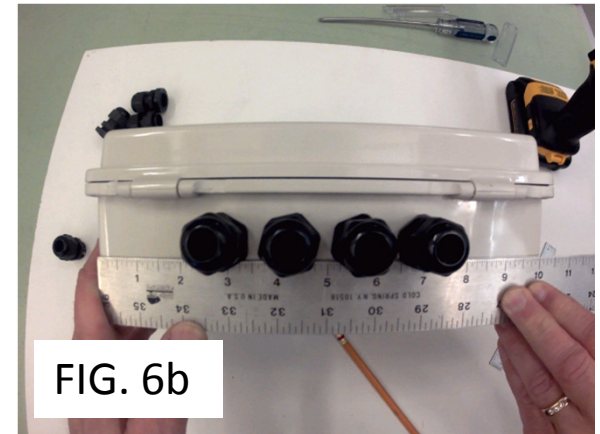

FIG. 6b
- Determine 7 cord grip locations on waterproof box (e.g., 3 PG13.5 grips on one long side, 3 PG13.5 grips on the other long side, 2 on short side (one PG13.5 and one PG9) (Fig 6b).
Note: Figs. 6b and 6d show 4 cord grips on one side of the waterproof box. This version should be built with 3 cord grips on one side and 3 on the other side.